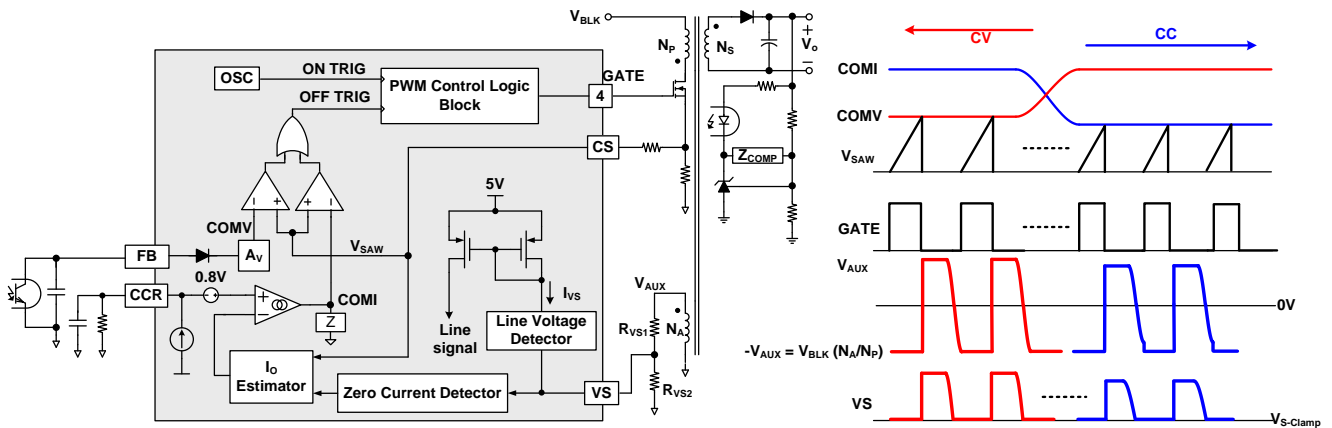

Figure 27 Simplified PWM Control Circuit and PWM Operation for CV/CC Regulation
The FAN604 indirectly senses the line voltage through the VS pin while the MOSFET is turned on, as illustrated in Figure 27. During MOSFET turn-on period, the auxiliary winding voltage,  $V_{AUX}$ , is proportional to the input bulk capacitor voltage,  $V_{BLK}$ , due to the transformer coupling between the primary and auxiliary windings. During the MOSFET conduction time, the line voltage detector clamps the VS pin voltage to  $V_{S-Clamp}$  ( $0 V$ ), and then the current  $I_{VS}$  flowing out of VS pin is expressed as:
Figure 27 shows a simplified CV / CC PWM control circuit of the FAN604. The Constant Voltage (CV) regulation is implemented in the same manner as the conventional isolated power supply, where the output voltage is sensed using a voltage divider and compared with the internal reference of the shunt regulator to generate a compensation signal. The compensation signal is transferred to the primary side through an opto-coupler and scaled down by attenuator  $A_V$  to generate a COMV signal. This COMV signal is applied to the PWM comparator to determine the duty cycle.
These two control signals, COMV and COMI, are compared with an internal sawtooth waveform ( $V_{SAW}$ ) by two PWM comparators to determine the duty cycle. Figure 27 illustrates the outputs of two comparators, combined with an OR gate, to determine the MOSFET turn-off instant. Either of COMV or COMI, the lower signal determines the duty cycle. During CV regulation, COMV determines the duty cycle while COMI is saturated to HIGH level. During CC regulation, COMI determines the duty cycle while COMV is saturated to HIGH level.
Where Lm is the transformer's primary side magnetizing inductance. Since the output current error is proportional to the line voltage, the FAN604 incorporates line voltage compensation to improve output current estimation accuracy. Line information is obtained through the line voltage detector as shown in Figure 27. ICOMP is an internal current source, which is proportional to line voltage. The line compensation gain is programmed by using CS pin series resistor, RCS\_COMP, depending on the MOSFET turn-off delay, tOFF\_DLY. ICOMP creates a voltage drop, VOFFSET, across RCS\_COMP. This line compensation offset is proportional to the DC link capacitor voltage, VBLK, and turn-off delay, tOFF\_DLY. Figure 29 demonstrates the effect of the line compensation.